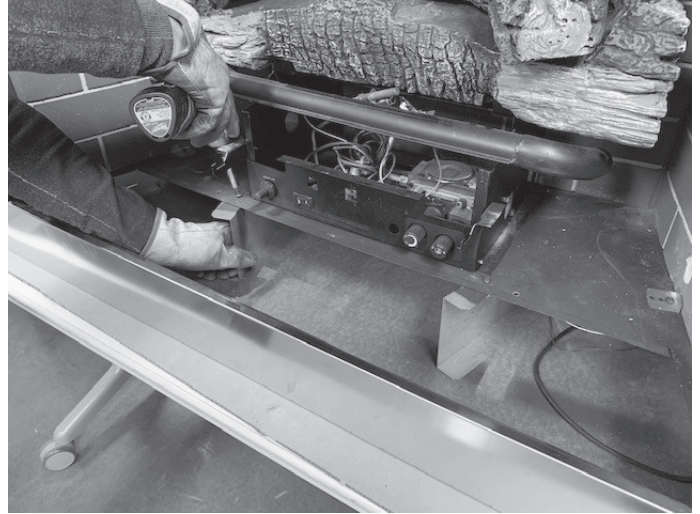

Figure 8.6
5. Rotate the right and left firebox support towards the center until screw holes align and reinstall (2) screws previously removed. See Figure 8.6.